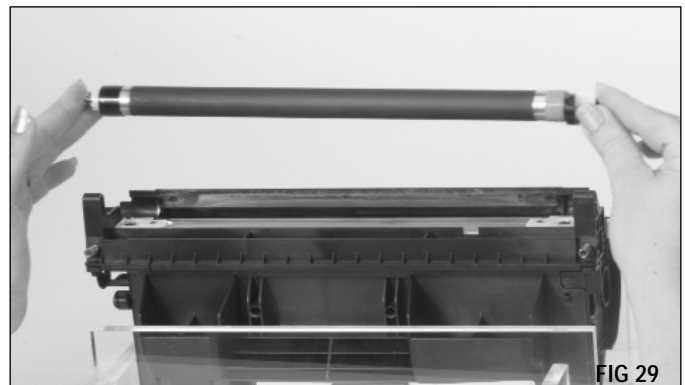

FIG 29
8. Install the mag roller. The mag roller is installed with the electrical contact wire on the contact end of the cartridge and the stabilizer on the drive gear end of the cartridge (FIG 29). Caution: The drive gear can go on backwards. Make sure the gear is seated flush with the end of the mag roller endcap.